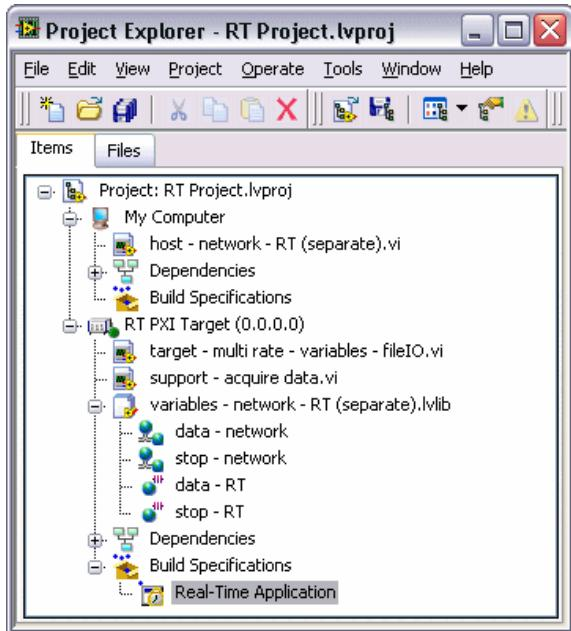

Figure 8. Creating a Build Specification
As shown in Figure 8, the host VI contains a While Loop that reads from the shared variable, *data - network*, and publishes the data to a waveform chart on the front panel. The host VI also contains a Shared Variable node that writes to the shared variable, *stop*, allowing you to control the RT target VI from the host computer.
6. Click the **OK** button to accept the settings and close the **Real-Time Application Properties** dialog box. The build specification name appears in the **Project Explorer** window under **Build Specifications** for the RT target, as shown in Figure 8.